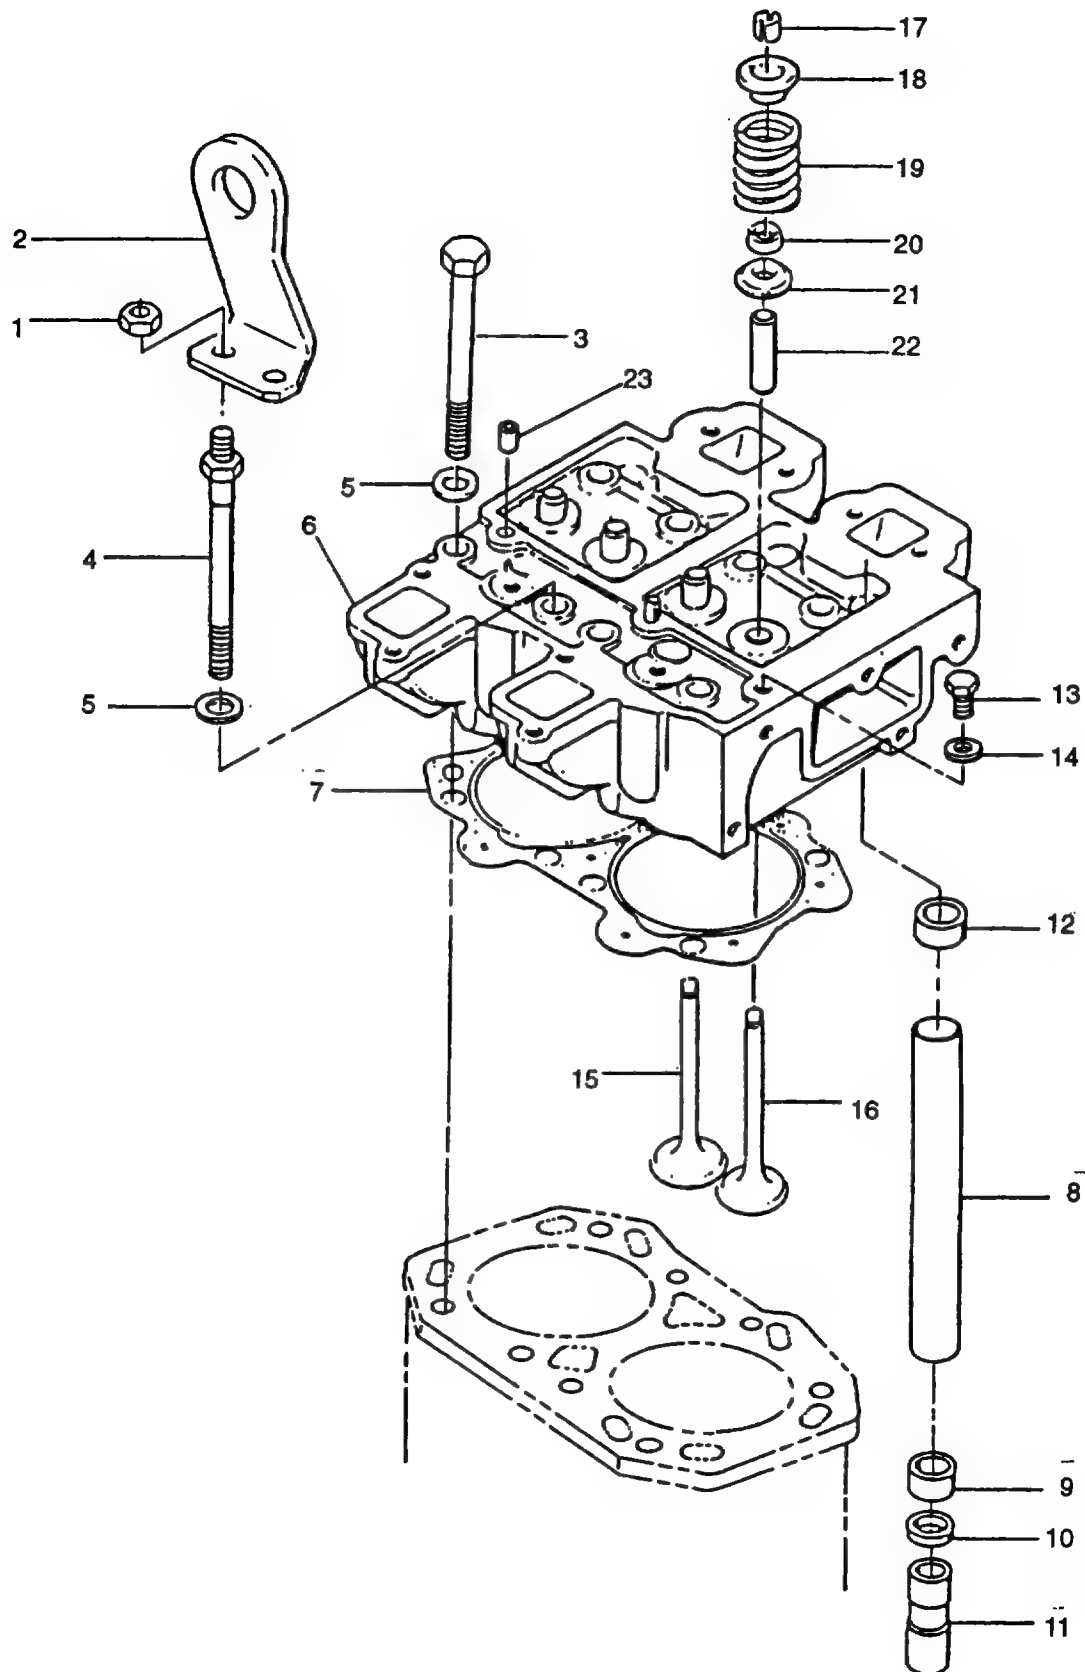

FIGURE 3-28. Cylinder Head Assembly
- e. Remove two nuts (1, FIGURE 3-28) securing lifting eye (2); remove lifting eye (2).
- i. Lift off cylinder head (6, **FIGURE 3-28**) and gasket (7). Discard gasket.
- a. Remove pushrod tubes (8, **FIGURE 3-28**), seals (9), washers (10) and tappets (11) from crankcase.
b. Remove seals (12) from cylinder head (6). Discard seals (12)
c. If necessary, remove capscrew (13) and washer (14).
- a. Using standard valve spring compressor tool install each valve (15 or 16, **FIGURE 3-28**) as follows:
- (1) Lightly lubricate valve stem with engine lubricating oil (MIL-L-2104) and insert valve (15 or 16).
- (2) Lay head (6), upright on bench and place a block of wood under head of valve being replaced.
- (3) Place valve spring plate (21) in position.
- (4) Install a new valve stem seal (20) to valve guide (22) taking care to ensure it is correctly located over valve guide and is not distorted.
- (5) Install valve spring (19) and spring carrier (18).
- (6) Push down on tool until collets (17) can be installed in position with their tops slightly sunk in valve spring carrier (18).
- (7) Gently release tool and check that collets (17) are correctly located.
- b. If removed, install capscrew (13), washer (14), and breather tubes (23).
- a. Ensure cylinder head (6, **FIGURE 3-28**) and crankcase mating surfaces are clean and dry.
- b. Install hydraulic tappets (11) (solid end first) and new washers (10) in crankcase.
- c. Install new pushrod seal (12) in cylinder head (6) and new pushrod seal (9) in crankcase.